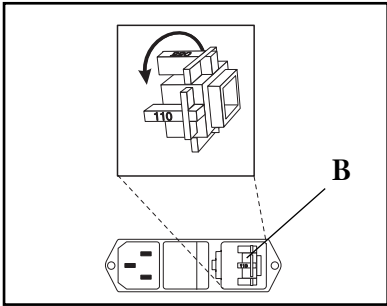

Figure 2.3
- 4. Remove the Voltage Selector Insert (B). (Figure 2.3)